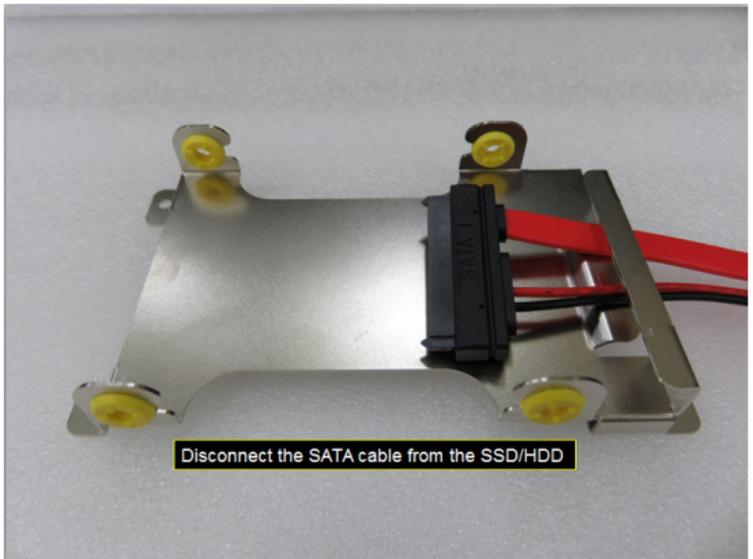

Figure 23
- 4.2.2.6 Disconnect the SATA cable from the SSD/HDD and remove the SSD/HDD as shown in Figure 23.